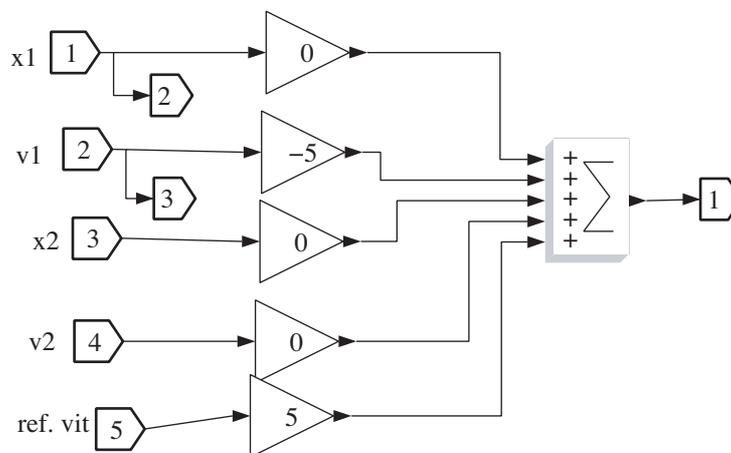
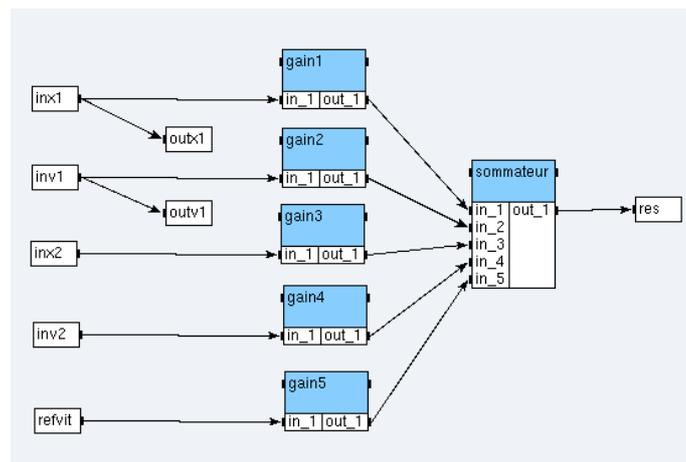

Figure 8.1: Scicos controller of the first car
Figure 8.2: SynDEx controller of the first car
Our controllers are simple. They are represented in figures 8.1 and 8.3 in Scicos and figures 8.2 and 8.4 in SynDEx:
- finally create both algorithms `controleur1_sup` and `controleur2_sup` (*cf.* figures 8.2 and 8.4), setting their gain parameters respectively to 0, -5, 0, 0, 5 and 4, 4, -4, -4.